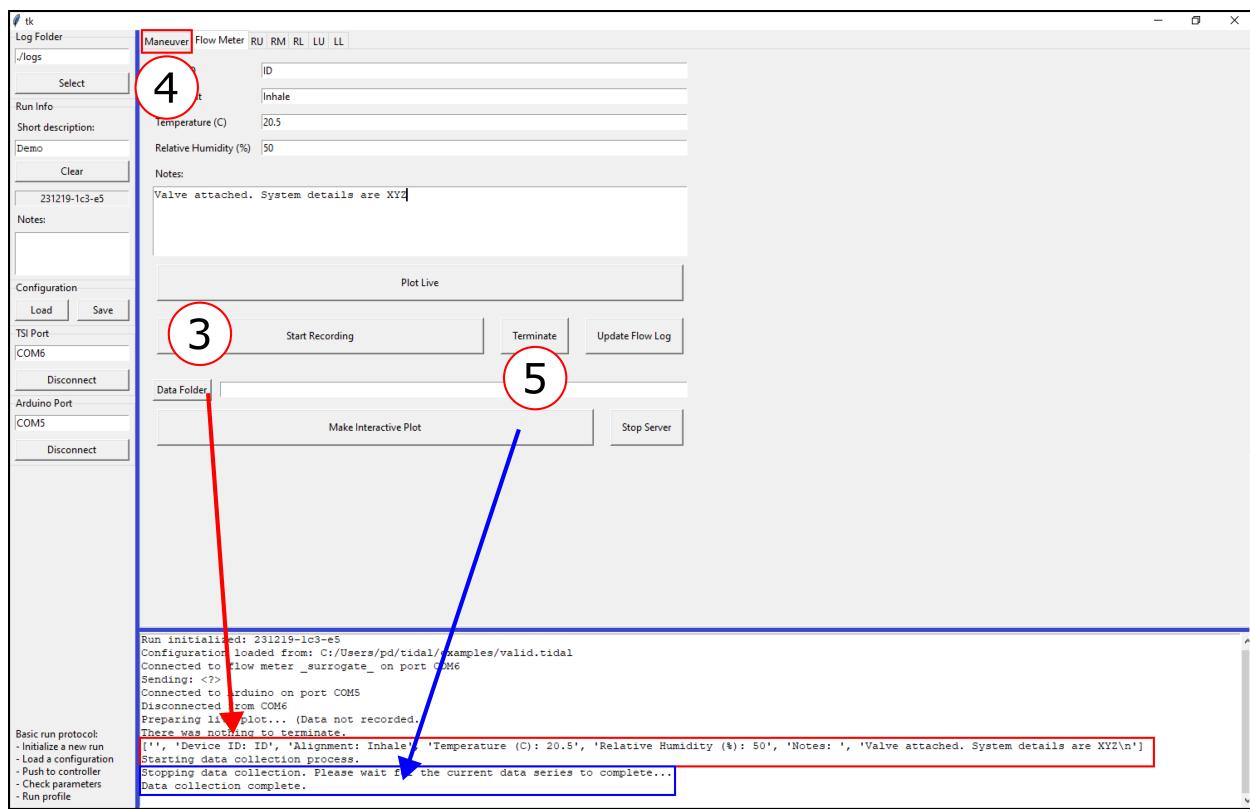

Figure 16: Recording flow meter readings.
3. To start recording data, click the **Start Recording** button. (**Figure 16**)
5. Once the maneuver is complete or data no longer needs to be collected, end the recording process by clicking the **Terminate** button. (**Figure 16**)